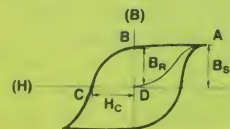

Figure 2.
One objective measure of the quality of the tape is given by the hysteresis loop. The point D in Figure 2 represents the starting point. As the magnetic field (H) is increased, the degree of magnetisation of the tape (B) will also increase, but not in a linear fashion. In fact we soon arrive at a point, A, where further increases in the magnetic field result in no further increase in the magnetisation of the tape.